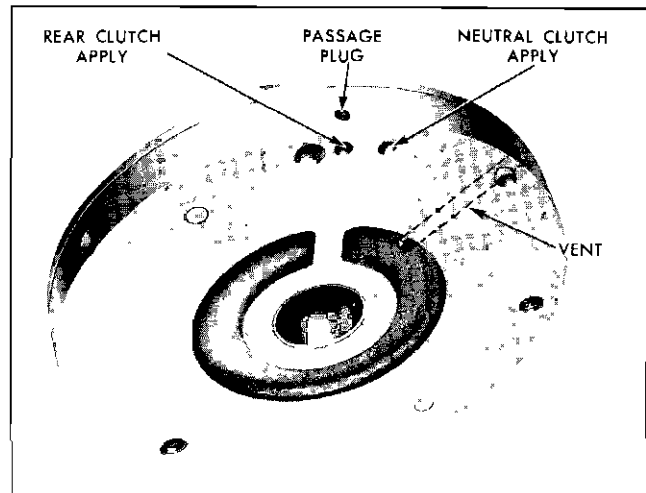

Fig. 78 Case Center Support Passages
1. Inspect case center support for burrs, damaged oil seal grooves, worn or damaged bushing or damaged threads (Fig. 78). Using tag wire or air pressure check to ensure passages in support are open and not interconnected.